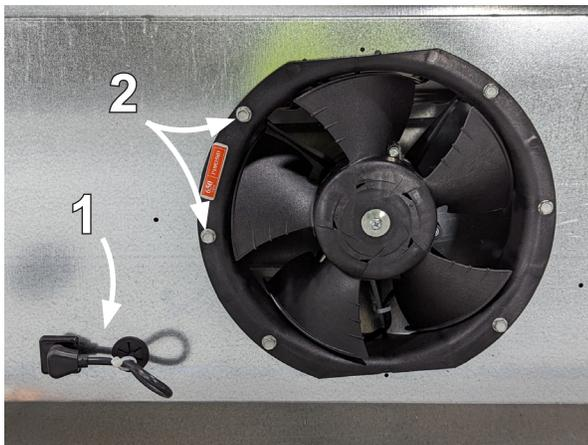

Fig. 29 Fan basket
1. Unplug the fan motor (Fig. 29), easily accessible outside the plenum. Be certain to push the power cord back through the plenum opening to avoid damage to the power cord.